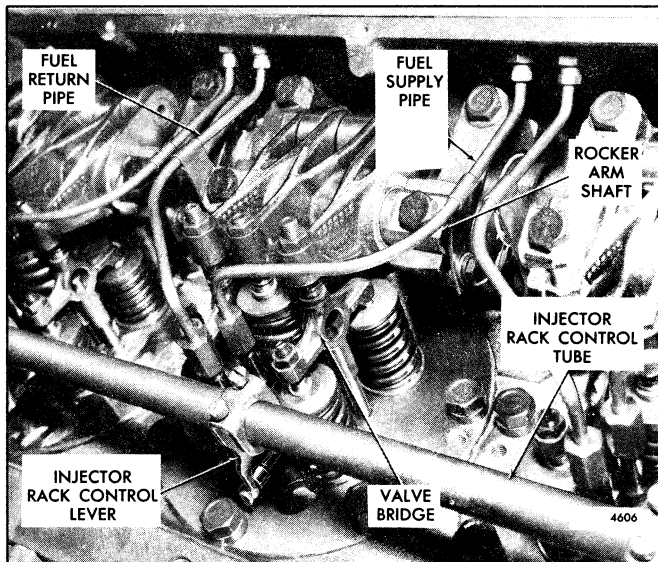

Fig. 1 - Injector Control Tube Mounting
• Fig. 1 - Woodward Synchronizing Motor Mounting
Some hydraulic governors are equipped with a reversible electric synchronizing motor mounted on the governor cover (Fig. 1). This motor, used in place of a vernier control knob, permits close adjustment of the engine speed from a remote control point. This feature is especially valuable when synchronizing two generators from a central control panel.
- Woodward motors (Fig. 1) are mounted vertically on the governor covers and connected to the governor speed adjusting shaft through a short gear train.
The fuel injector control tube assemblies (Fig. 1) are mounted on the left and right bank of the cylinder block of the engine and consist of a control tube, injector rack control levers, a return spring and injector control tube lever mounted in two bracket and bearing assemblies attached to each bank of the cylinder block.